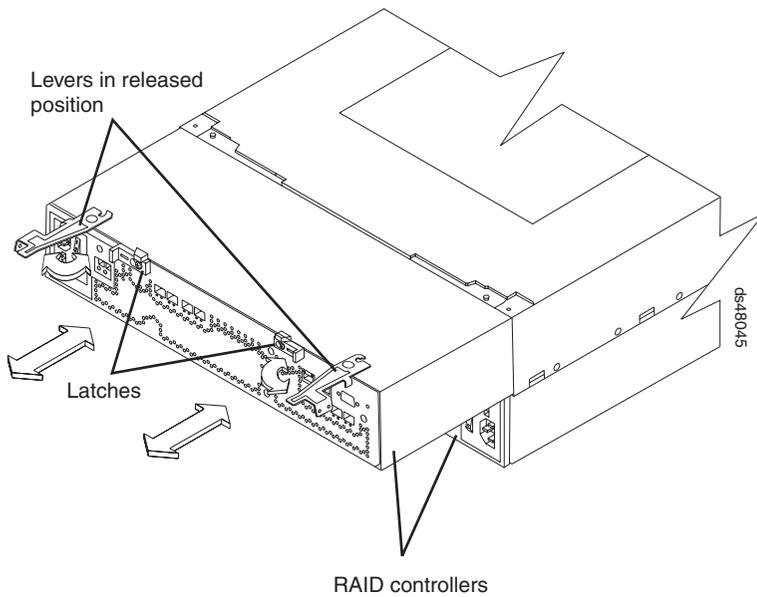

Figure 9. Removing a controller from the DS4800
9. Release the controller levers and remove the top controller (controller A) from the DS4800 chassis. Figure 9 on page 10 shows the controller sliding from the storage subsystem chassis. Refer to "Releasing a component lever" section in the *DS4800 Installation, User's, and Maintenance Guide* for more information on unlatching and removing the controller from the DS4800 chassis.